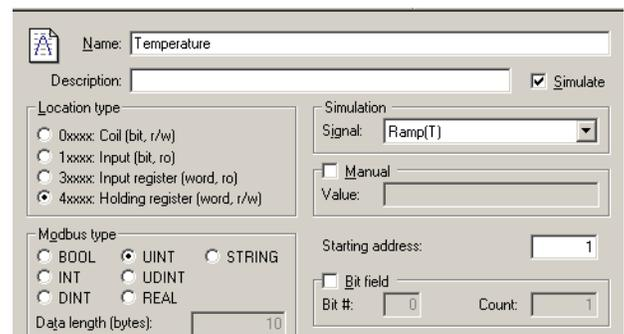

Figure 4 - Temperature Tag Settings
11. Give the data item a name and set its properties. You can create a Temperature tag as shown in Figure 4 if you wish.